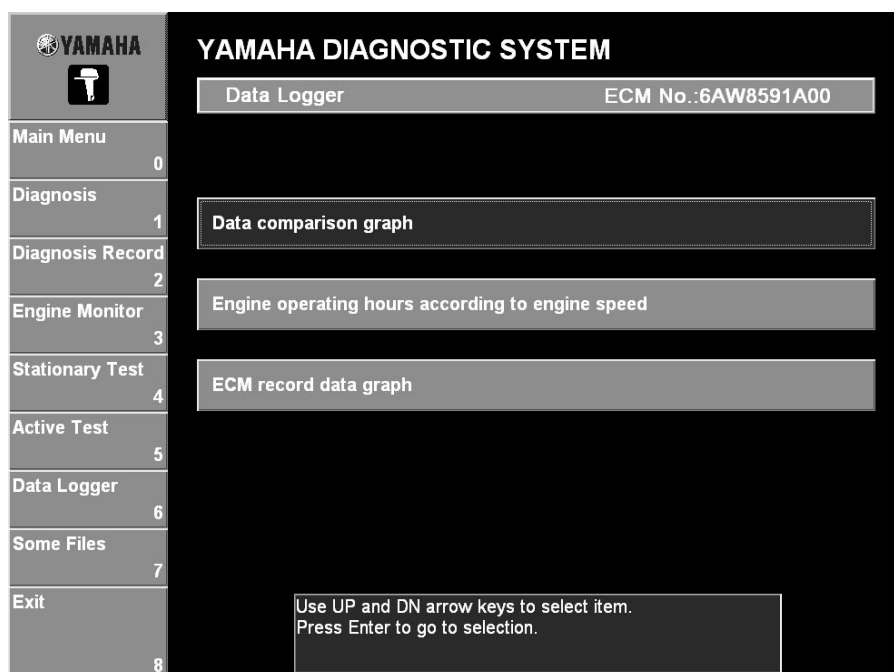

Fig. 114
1. Click the **Data comparison graph** button or press the up or down arrow key on your keyboard to select it and press the Enter key. (See fig. 114.)
1. Click the **Engine operating hours according to engine speed** button or press the up or down arrow key on your keyboard to select it and press the Enter key. (See fig. 114.)